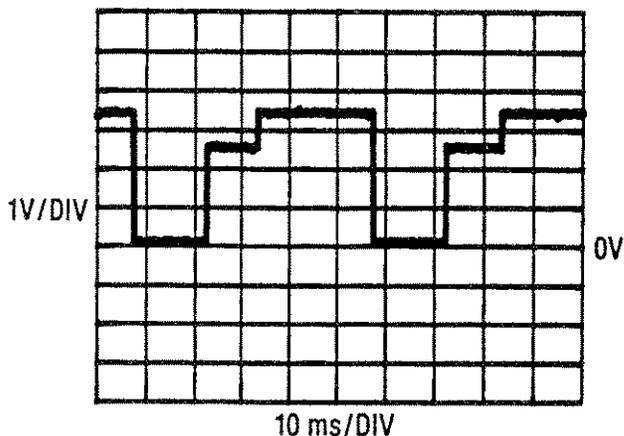

Figure 8-44. Analog to Digital Converter Input Waveform
5. Compare the waveform at A5TP11 with Figure 8-44. If the waveform is incorrect, perform the Analog/Digital Input Multiplexer and Sensor Resistor Selection Test. If the waveform is normal, replace A5U7, A5R80, A5R81 or A5R82.